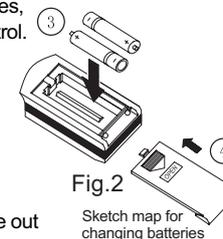

Fig.2
3. Insert two new AAA1.5V dry batteries, and pay attention to the polarity. (As shown in figure2)
4. Attach the back cover of wireless remote control. (As shown in figure2)